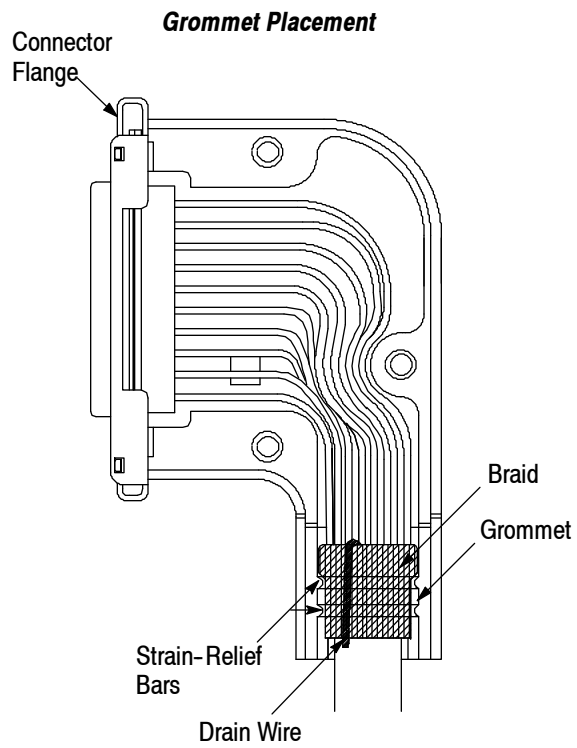

Figure 8
6. GROMMET ASSEMBLY (Refer to Figure 8)